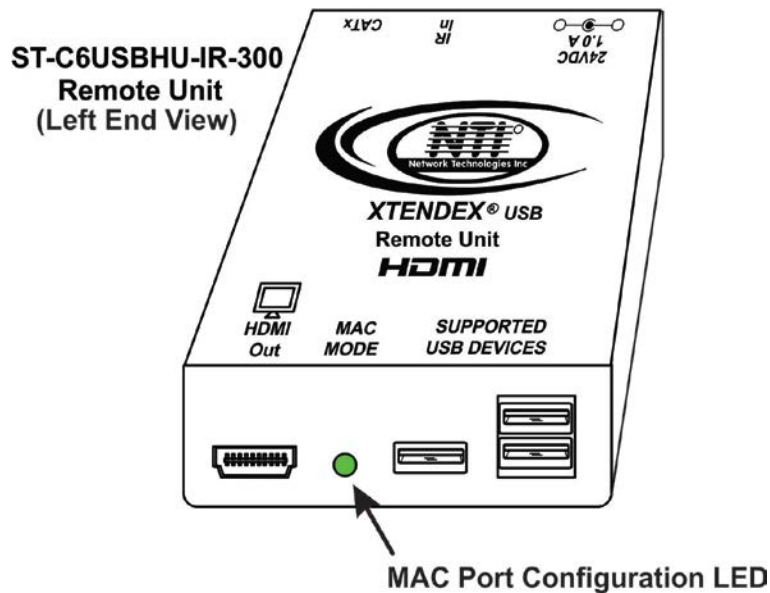

Figure 6- MAC LED
2. If a MAC CPU is connected, press the <M> key. The keyboard LEDs will momentarily flash and the “MAC” LED on the Remote Unit will illuminate to indicate MAC Mode is ON. (See Figure 6)